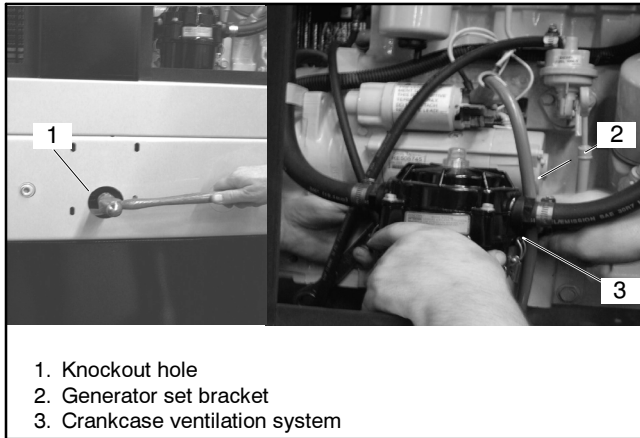

Figure 3 Remove Knockouts and Crankcase Ventilation System
- 1.2.6 Remove two 63.5 mm (2 1/2 in.) dia. knockouts from the skid. See Figure 3.
- 1.2.7 Remove crankcase ventilation system from generator set bracket. Secure crankcase ventilation system to generator set to prevent damage. See Figure 3.
- 2.1.14 Attach crankcase ventilation system to generator set bracket. Tighten securely. See Figure 3.